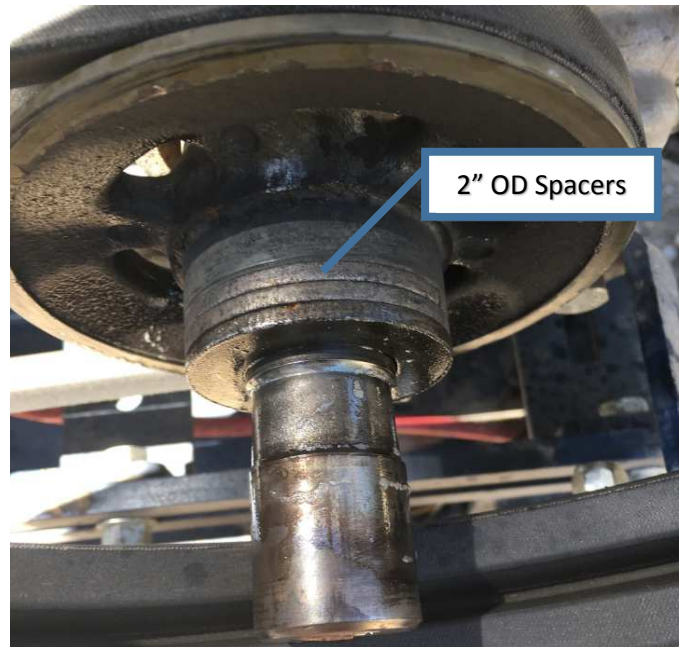

Figure 3
- Remove Quantity 4 of 2" OD Spacers PN 1300013246 from the Engine Crank Shaft as shown in Figure 3